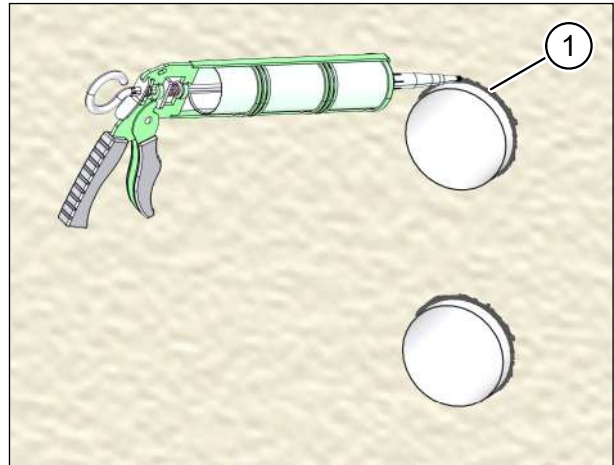

Fig. 42: Sealing ventilation pipes on the external wall
- ▶ Chamfer both pipe breakthrough edges (item 1 in Fig. 42) to roughly 5 x 45° to create enough space for the sealing joints with permanently elastic sealant.